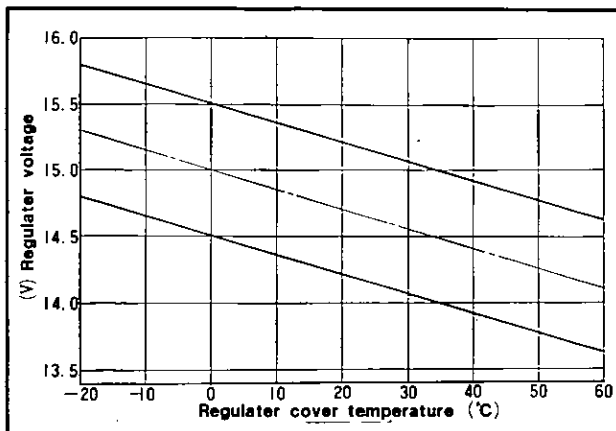

Fig. EE-69
4. When the charging current is less than 5 ampere and the voltage of this time is within the limit of Figure EE-69, it is all right.